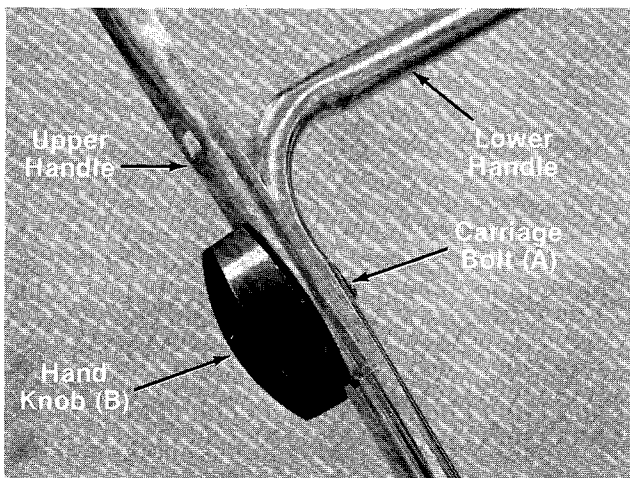

FIGURE 3. Folding Handle Only
- ← **A. Units with Folding Handle**—Secure upper handle with two curved carriage bolts (A) and hand knobs (B) as shown in figure 3. The knobs may be assembled either to the inside or the outside of the handle.